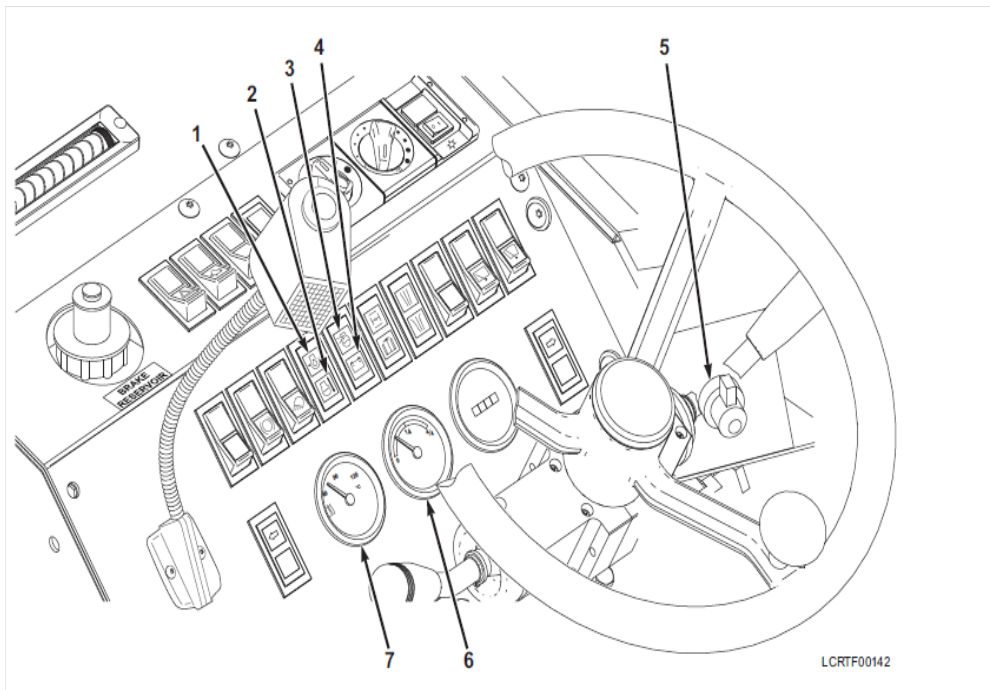

Figure 3-67
- d. Turn the ignition switch clockwise to the ign/start position (see Figure 3-67, Item 5). Release the switch as soon as the engine starts. If the engine fails to start on the first try, wait until engine and starter
e. After engine starts, return accelerator pedal to idle position for approximately 3 minutes. Ensure that readings on gauges (see Figure 3-67, Item 6 and 7) are within normal operating ranges and warning lights (see Figure 3-67, Items 1, 2, 3, and 4) are not illuminated before moving vehicle.